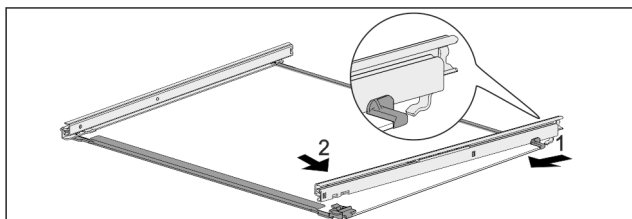

Fig. 121 Glass shelf with rails
- Hook in rail at the back. Fig. 121 (1)
- Hook in rail at the front. Fig. 121 (2)